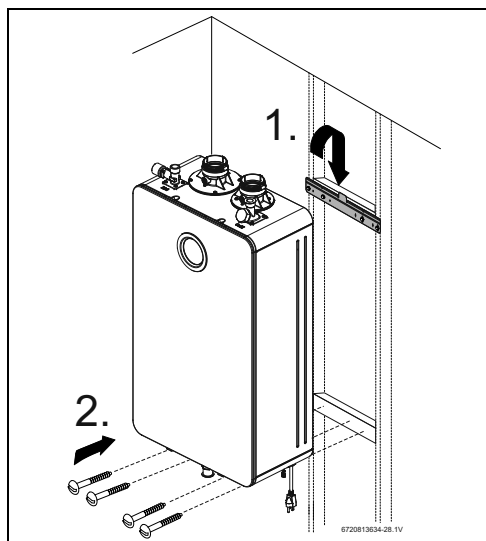

Fig. 9 Mounting the heater
- ▶ Hang the appliance on the bracket, see fig. 9, page 18.